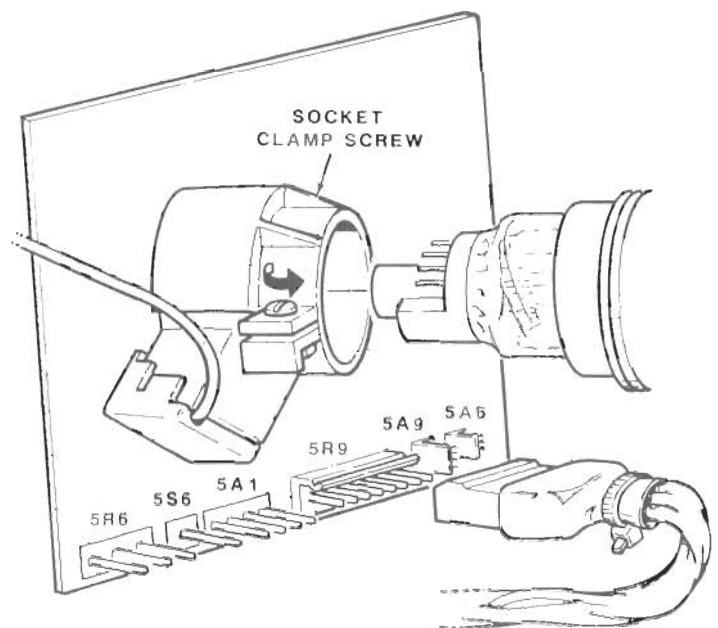

Figure 3-4. Video Board Removal
2. Refer to Figure 3-4 and loosen the CRT socket clamp screw.